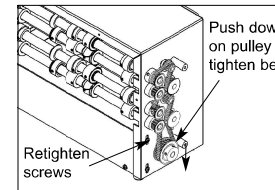

Figure 13
13. Push down on the lower pulley to tighten the belt then retighten the hex head screws around the lower pulley. Fig. 13